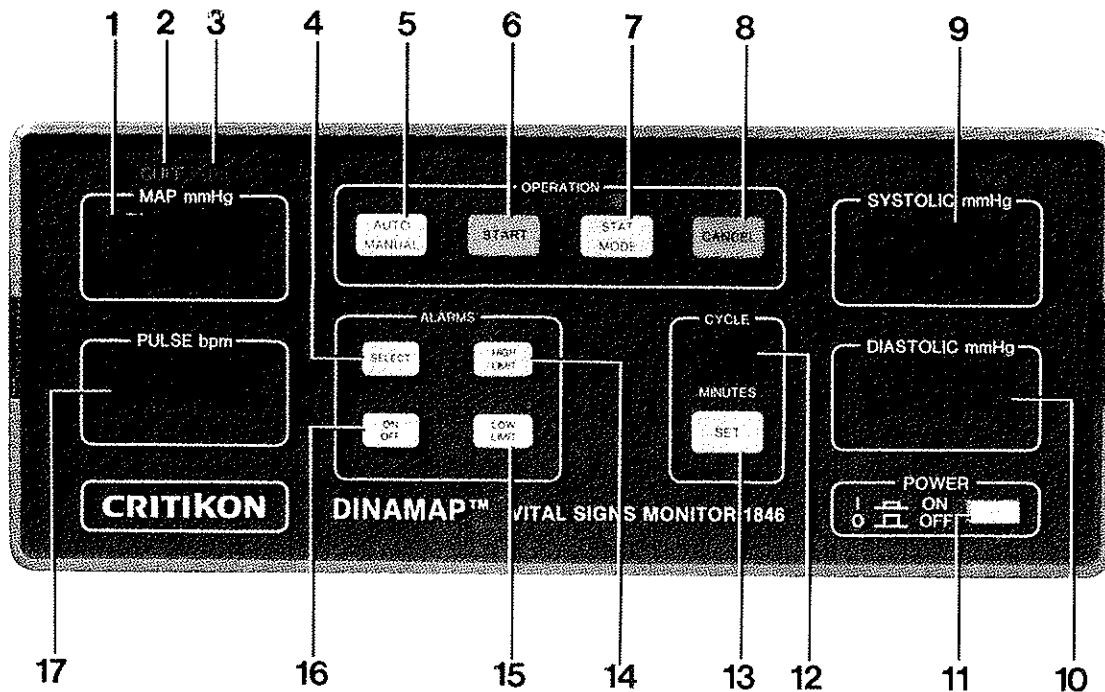
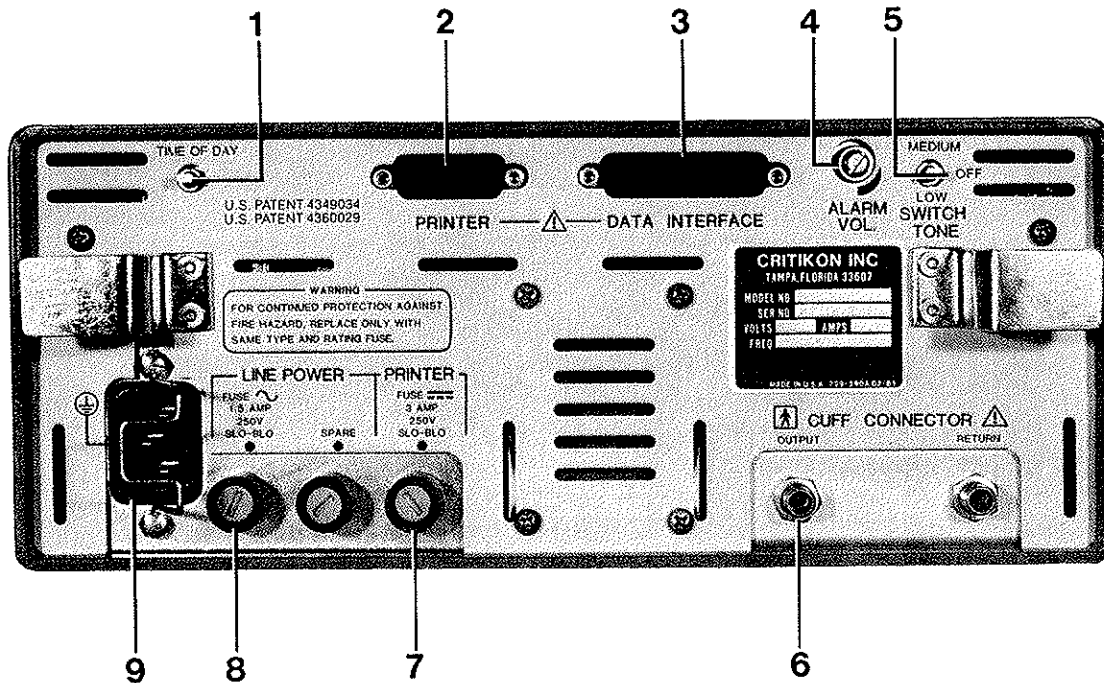

Figure 5-1 Front Panel Controls and Indicators
Figure 5-2 Rear Panel Controls and Indicators
**5.2 Controls and Indicators** Controls and indicators are situated on both the front and rear panels of the DINAMAP™ Vital Signs Monitor. The front panel controls and indicators are shown in figure 5-1 and defined in Table 5-2. The rear panel controls and indicators are shown in Figure 5-2 and defined in Table 5-3.